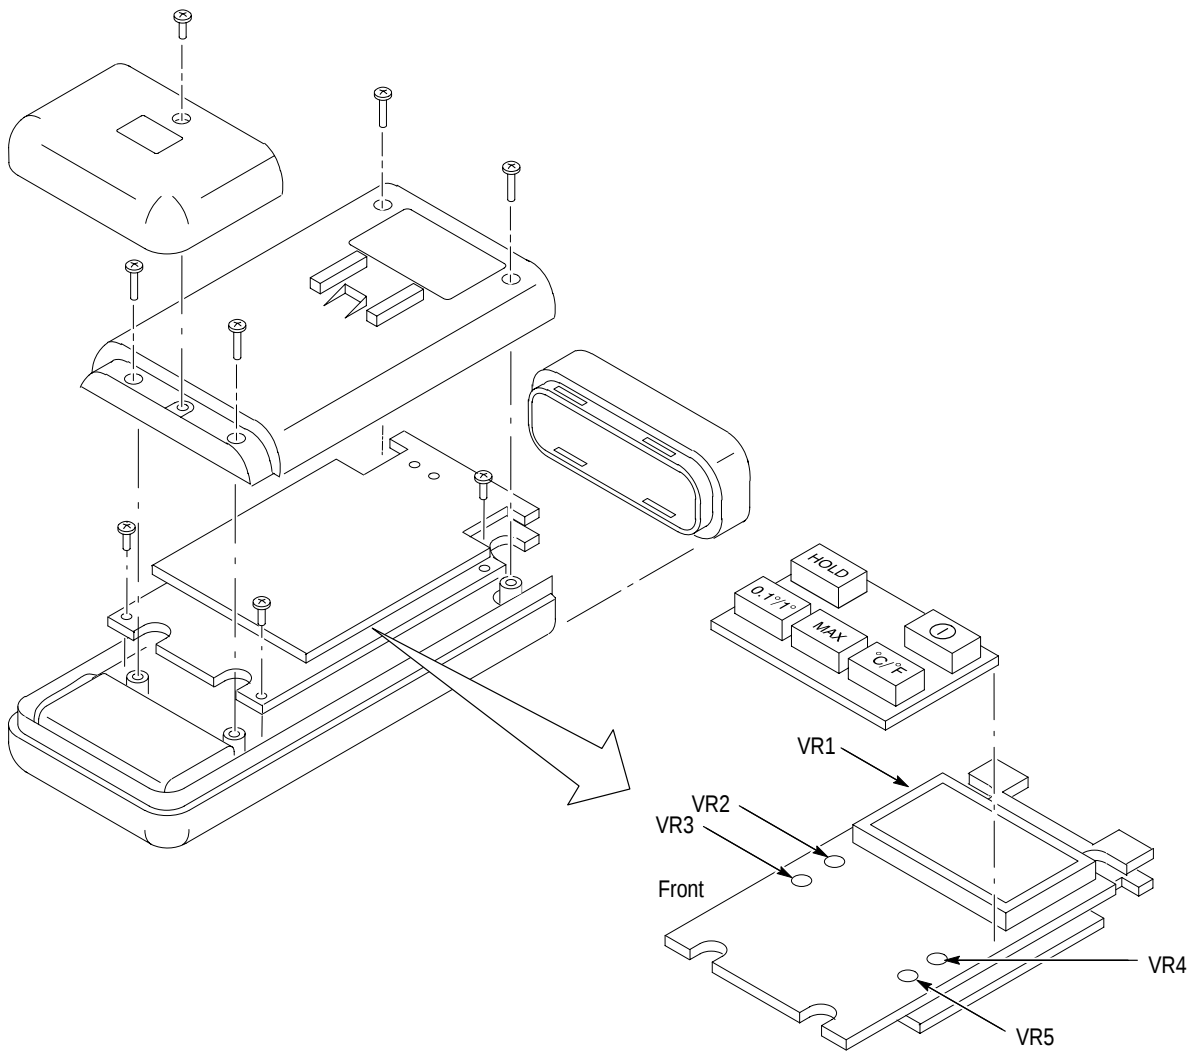
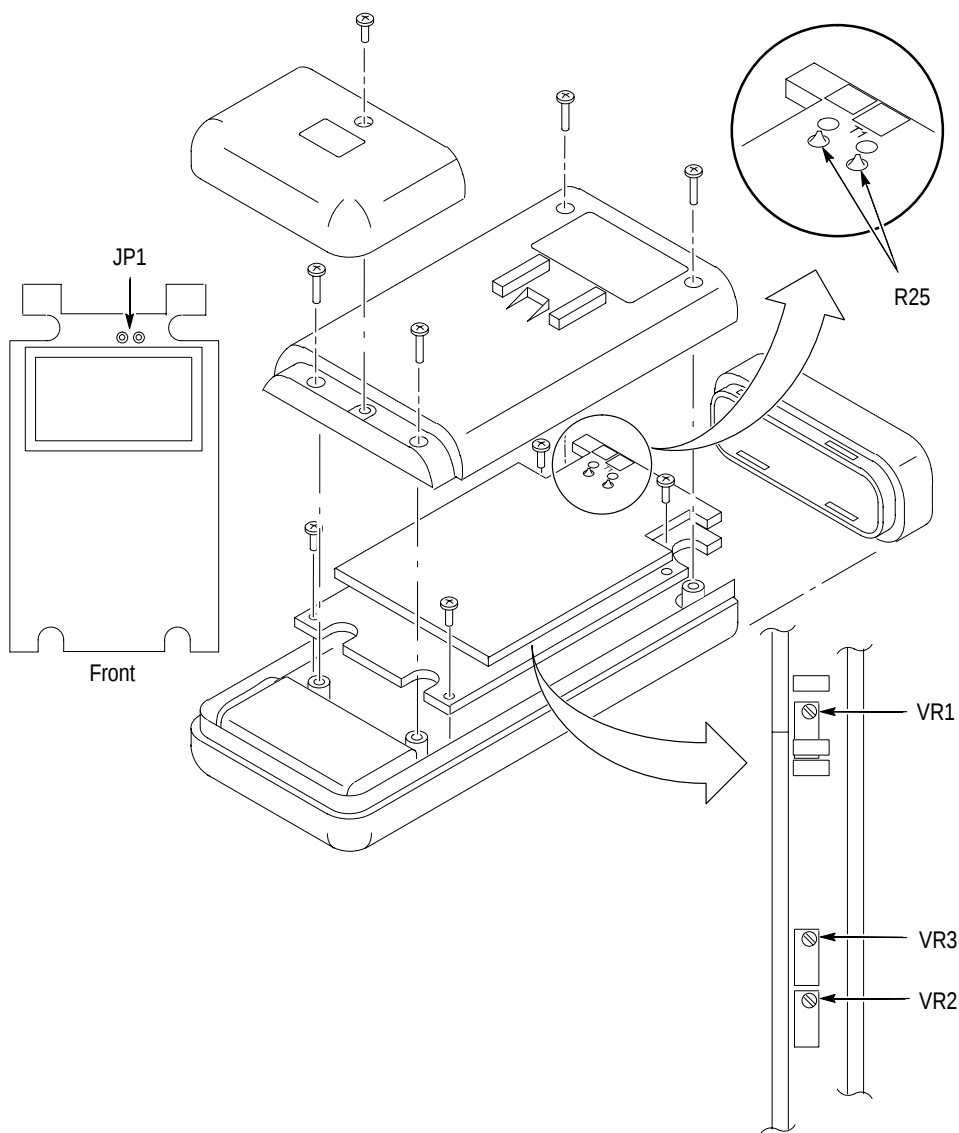

Figure 2: DTM900 Thermometer Disassembly and Adjustment Locations
Figure 3: DTM920 Thermometer Disassembly, Test Points, and Adjustment Locations
To make internal adjustments, you must open the thermometer case and remove the circuit board (see Figure 2 or Figure 3).
5. For each row in Table 7, set the thermometer and simulator as shown; then adjust the specified test point until the displayed temperature is within the proper limits. Figure 2 shows the location of the adjustment points.
This section describes how to adjust the DTM920 thermometer. To properly adjust the thermometer, perform the following steps in sequential order. Figure 3 shows the location of the test and adjustment points.